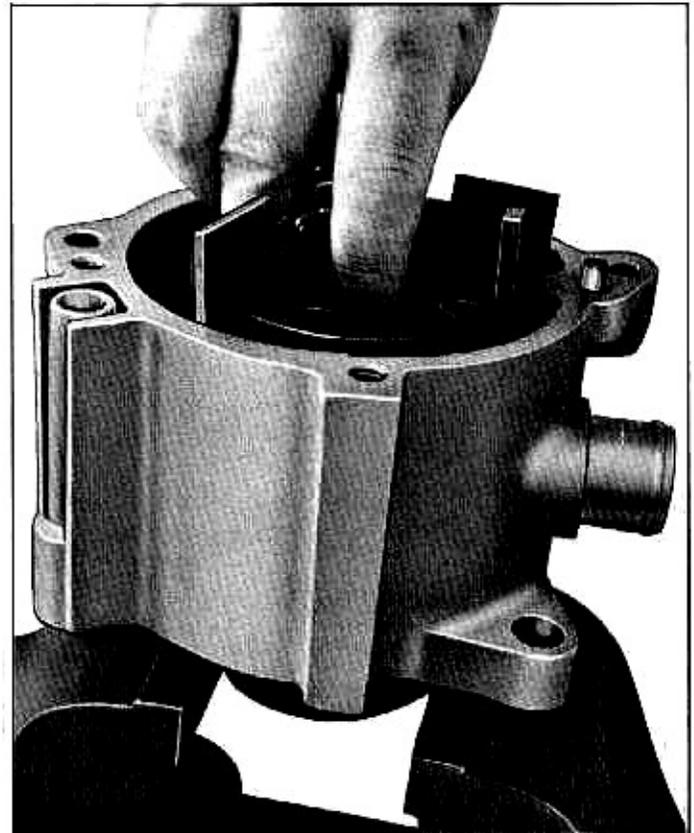

Fig. 12—Removing Vane Assemblies
3. Remove the vane assemblies (fig. 12).